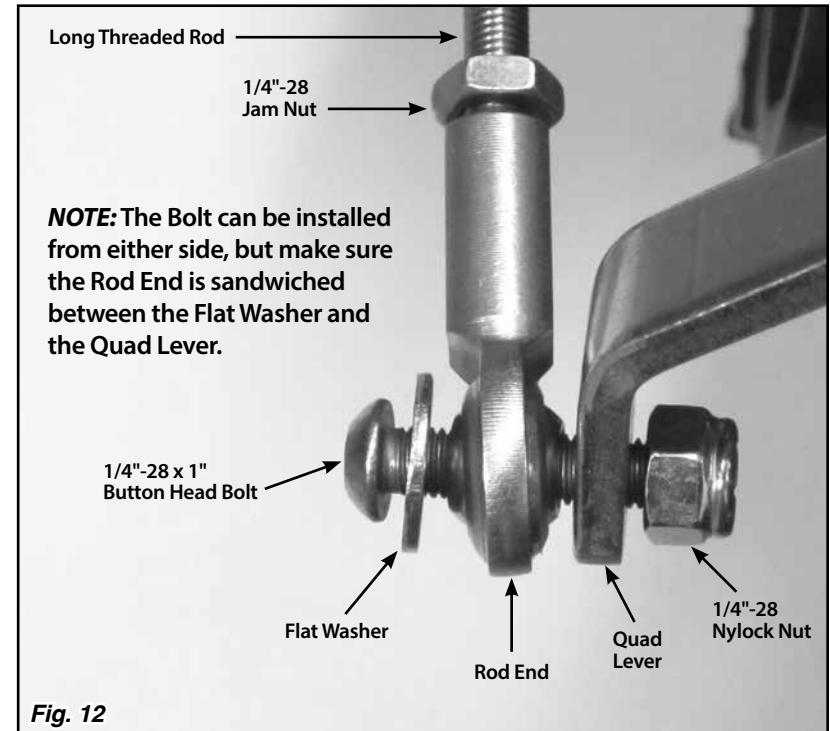

Fig. 12
Step 15: Verify that the 1/4"-28 jam nuts are still on the long threaded rod, and install the long threaded rod into the inner rod end on the linkage arm. Install a rod end onto the opposite end of the long threaded rod, and connect it to the outside of the quad lever using a 1/4"-28 x 1" button head bolt, flat washer, and nylock nut. Make sure the rod end is sandwiched between the flat washer and the quad lever. **Fig. 12**